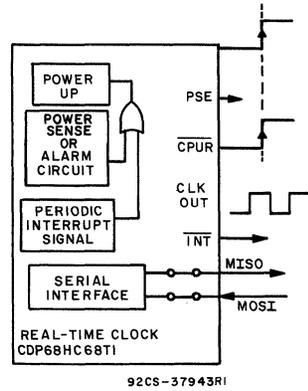

Fig. 5 - Power-up functional diagram (initiated by Interrupt Signal).
**POWER UP (See Figs. 5 and 6.)**
Two conditions will terminate the Power-Down mode. The first condition (See Fig. 5) requires an interrupt. The interrupt can be generated by the alarm circuit, the programmable periodic interrupt signal, or the power-sense circuit.